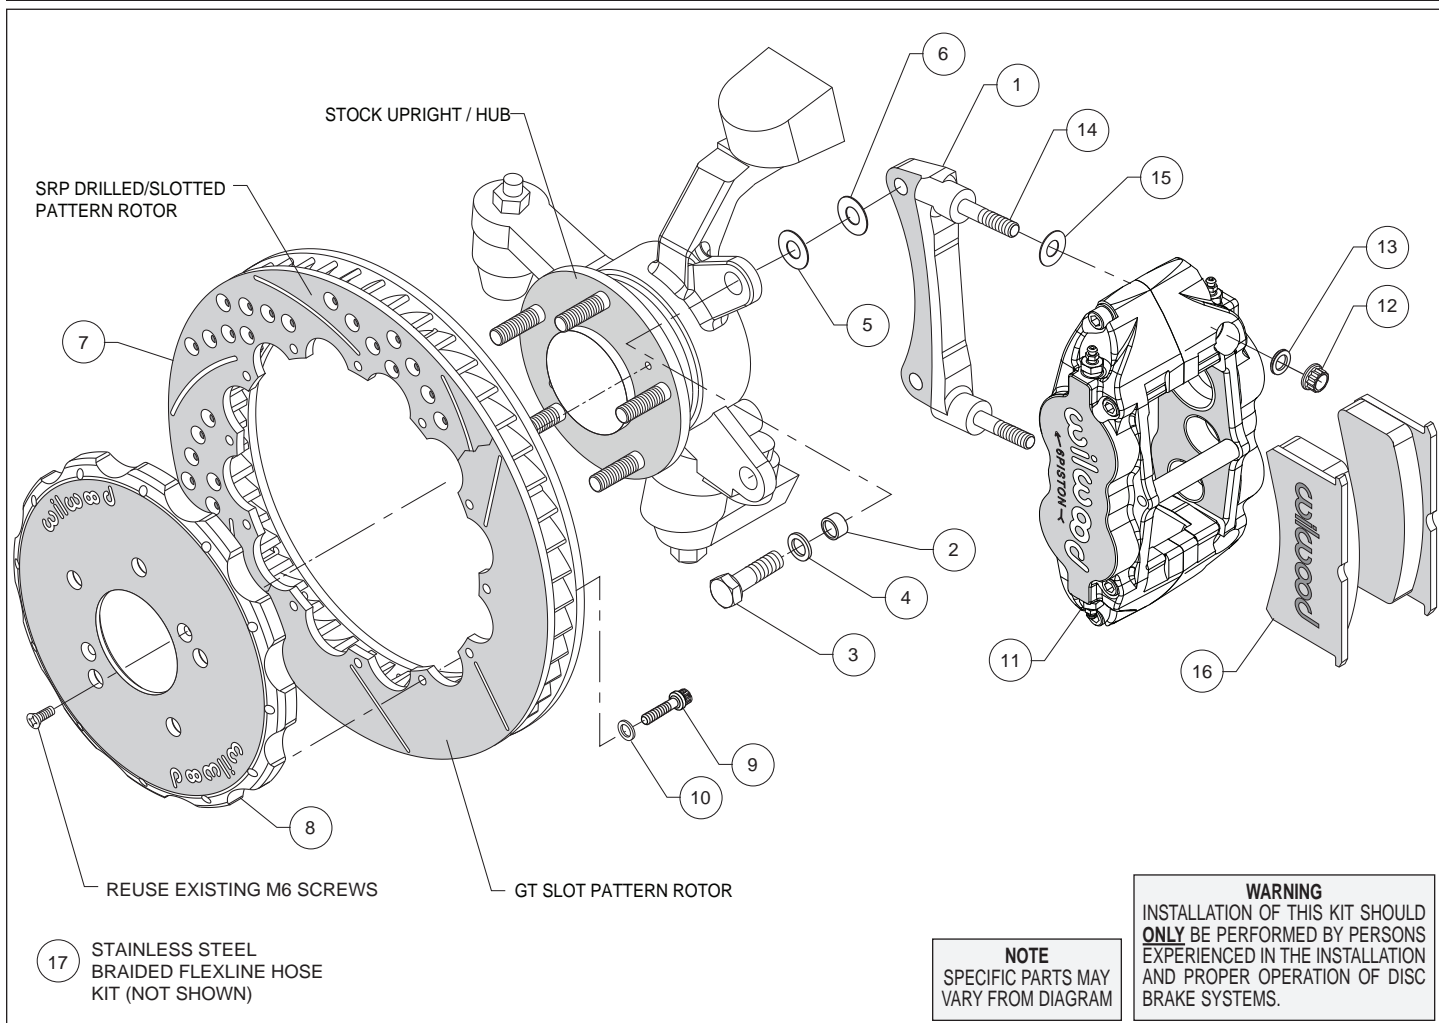
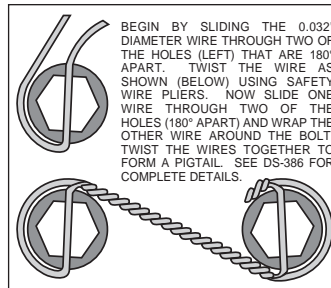

Figure 1. Typical Installation Configuration
Figure 3. Safety Wire Diagram
Assembly Instructions (numbers in parenthesis refer to the parts list and Figure 1 on the preceding pages):
- The caliper mount bracket (1) should initially be installed with clean, dry threads on the mounting bolts. Orient the bracket as shown in Figure 1 and Photo 1, and install using bolts (3), washers (4) and sleeve (2) inserted into the mount holes in the upright. Initially place one .030 thick shim (6) on each bolt between the bracket and upright, Figure 1. Temporarily tighten the mounting bolts. **NOTE:** *The bracket must fit squarely against the mount bosses on the upright.* Inspect for interference from casting irregularities, machining ridges, burrs, etc. Later, after the caliper alignment has been checked, the mount bolts will be secured using red *Loctite*[®] 271.
- Orient the rotor (7) and the hat (8) as shown in Figure 1 and Photo 2. Attach rotor to hat using bolts (9) and washers (10). Using an alternating sequence, apply red *Loctite*[®] 271 to the threads, and torque to 155 **in-lbs**. For an added measure of security, the bolts may be safety wired using standard 0.032 inch diameter stainless steel safety wire as shown in Figure 3. Please refer to Wilwood's data sheet DS-386 (available at www.wilwood.com/Pdf/DataSheets/ds386.pdf) for complete safety wire installation instructions.
- NOTE:** *This kit contains distinct right and left hand calipers that must be mounted in a specific direction, as described below.* Lubricate the caliper mounting studs (14) with lightweight oil. Initially place one .035" thick shim (15) on each stud as shown in Figure 1 and Photo 3. Mount the caliper (11) onto the bracket (1) using lock nuts (12) and washers (13), Figure 1. Ensure that the caliper is mounted so that the largest pistons are at the rotor exit end of the caliper, in relation to the direction of rotor rotation. Temporarily tighten the lock nuts and view the rotor through the top opening of the caliper. The rotor should be centered in the caliper, Photo 4. If not, adjust by adding or subtracting shims (5 and/or 6) between the bracket and the upright. Always use the same amount of shims on each of the two mounting bolts. Once the caliper alignment is correct, remove the bracket mounting bolts (3) one at a time, apply red *Loctite*[®] 271 to the threads, and torque to 42 ft-lb.